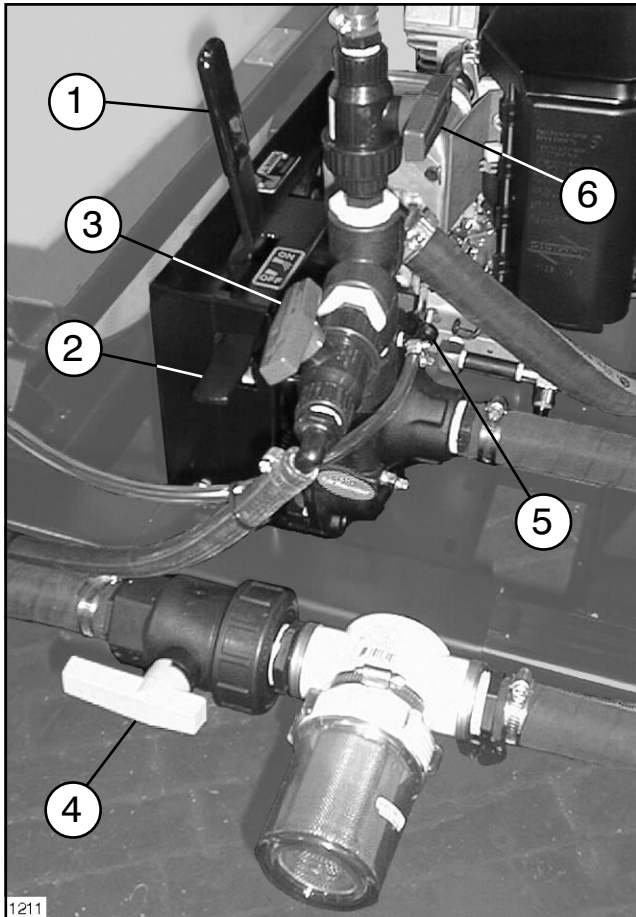

FIG. 5
1. Fill the Tank with clean, clear water and open the Suction Line Valve. See FIG. 5.
2. Park vehicle on level surface and set the parking brake. Move the Pump Engagement Lever to the “OFF” position. See Fig. 5. Start the engine as instructed in the “ENGINE OPERATING INSTRUCTIONS” section.